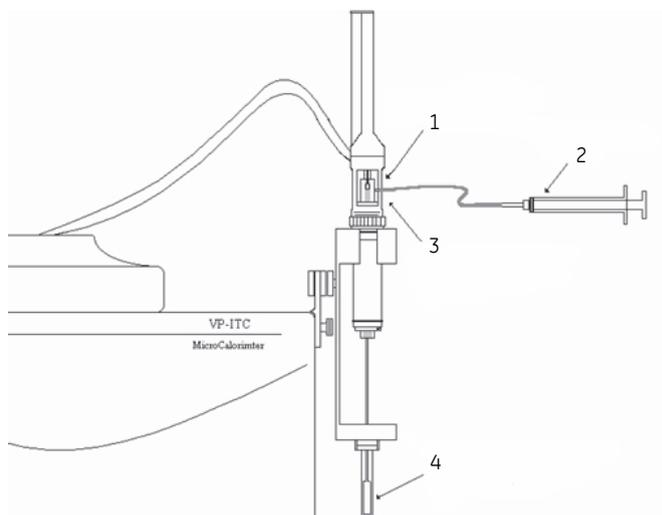

Figure 4-3. Pipette loading.
- 2 Place the pipette filling tube into the bottom of the stand (see *Figure 4-3*).